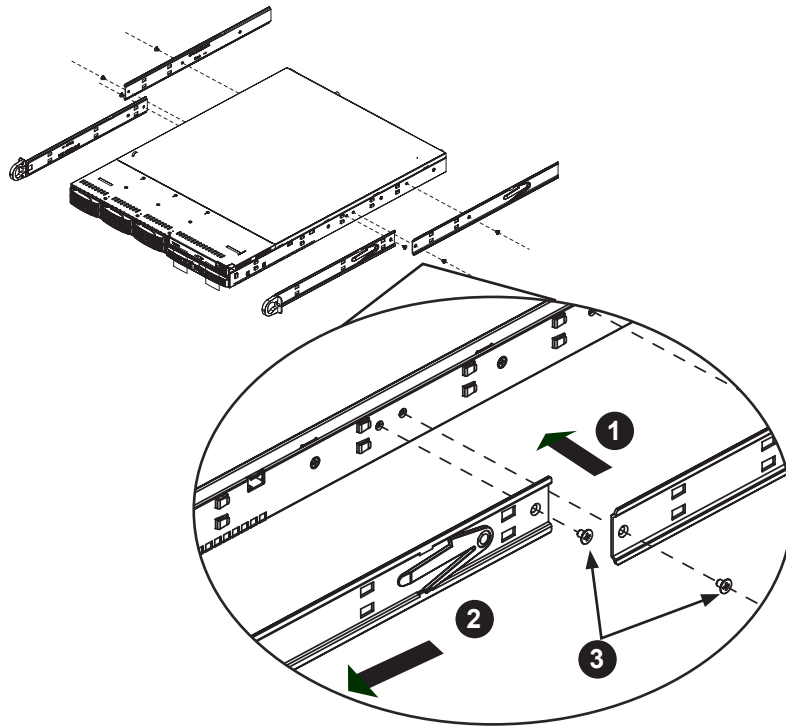

Figure 2-2. Installing the Chassis Rails
2. Slide the chassis rails into the rack rails, keeping the pressure even on both sides (you may have to press the locking tabs when inserting). See Figure 2-2.